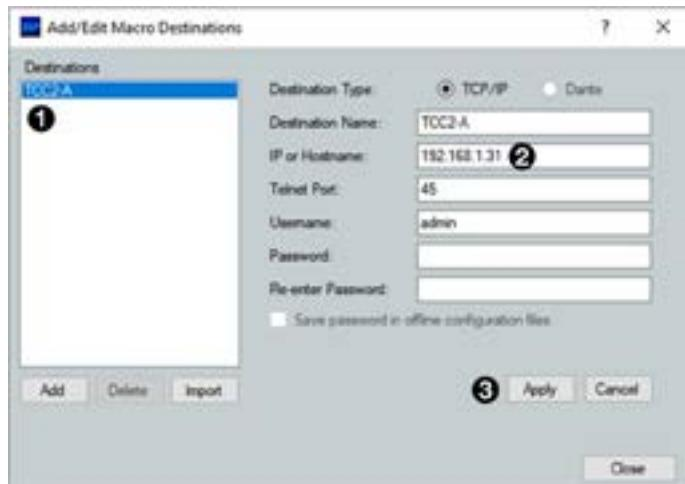

Figure 20. Add/Edit Macro Destinations Dialog Box
1. Select **Add/Edit Remote Destinations** (see figure 20, ⑦).
2. Select **TCC2-A** (see figure 20, ①) and update the IP address (②) to match the microphone that was configured earlier.
3. Select **Apply** (③).